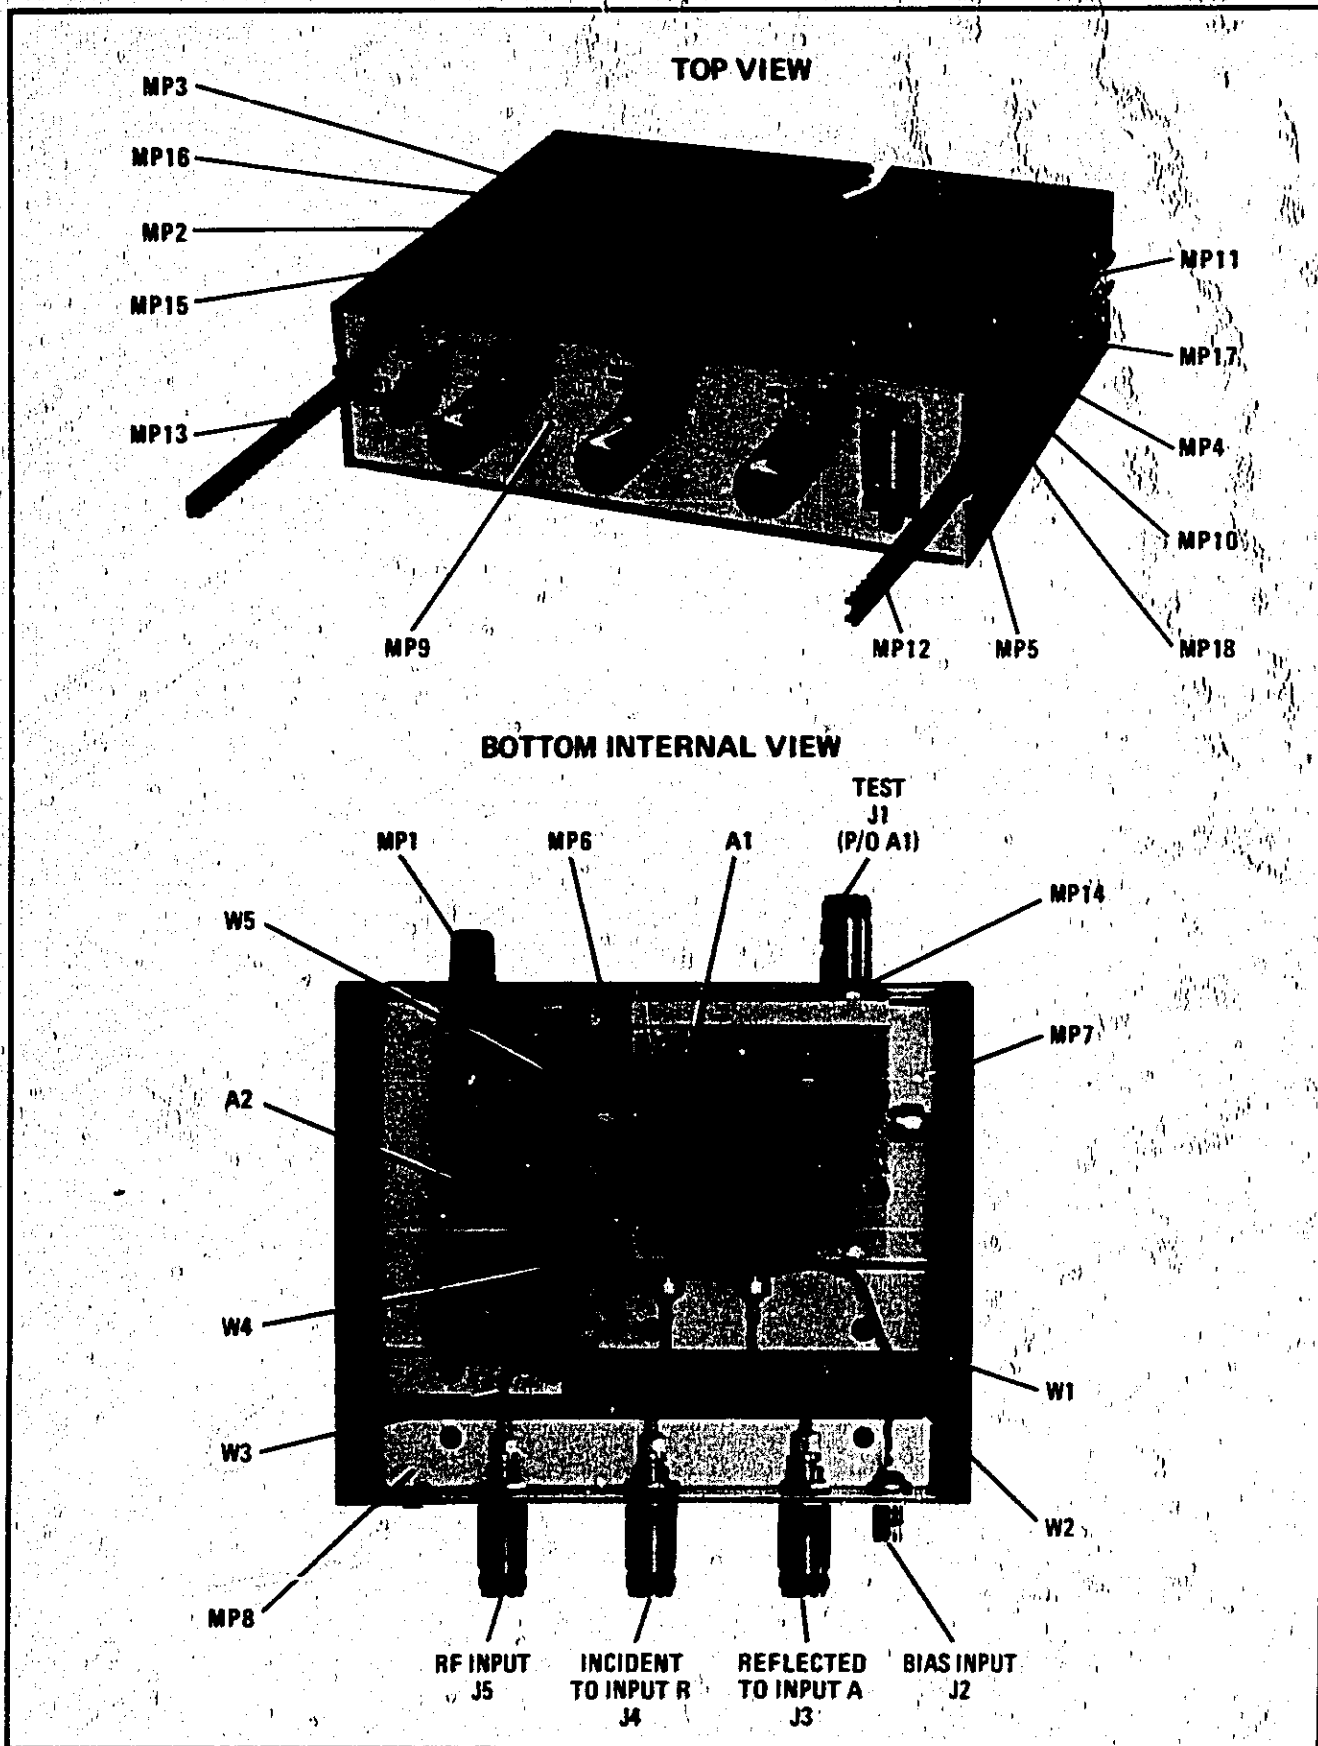
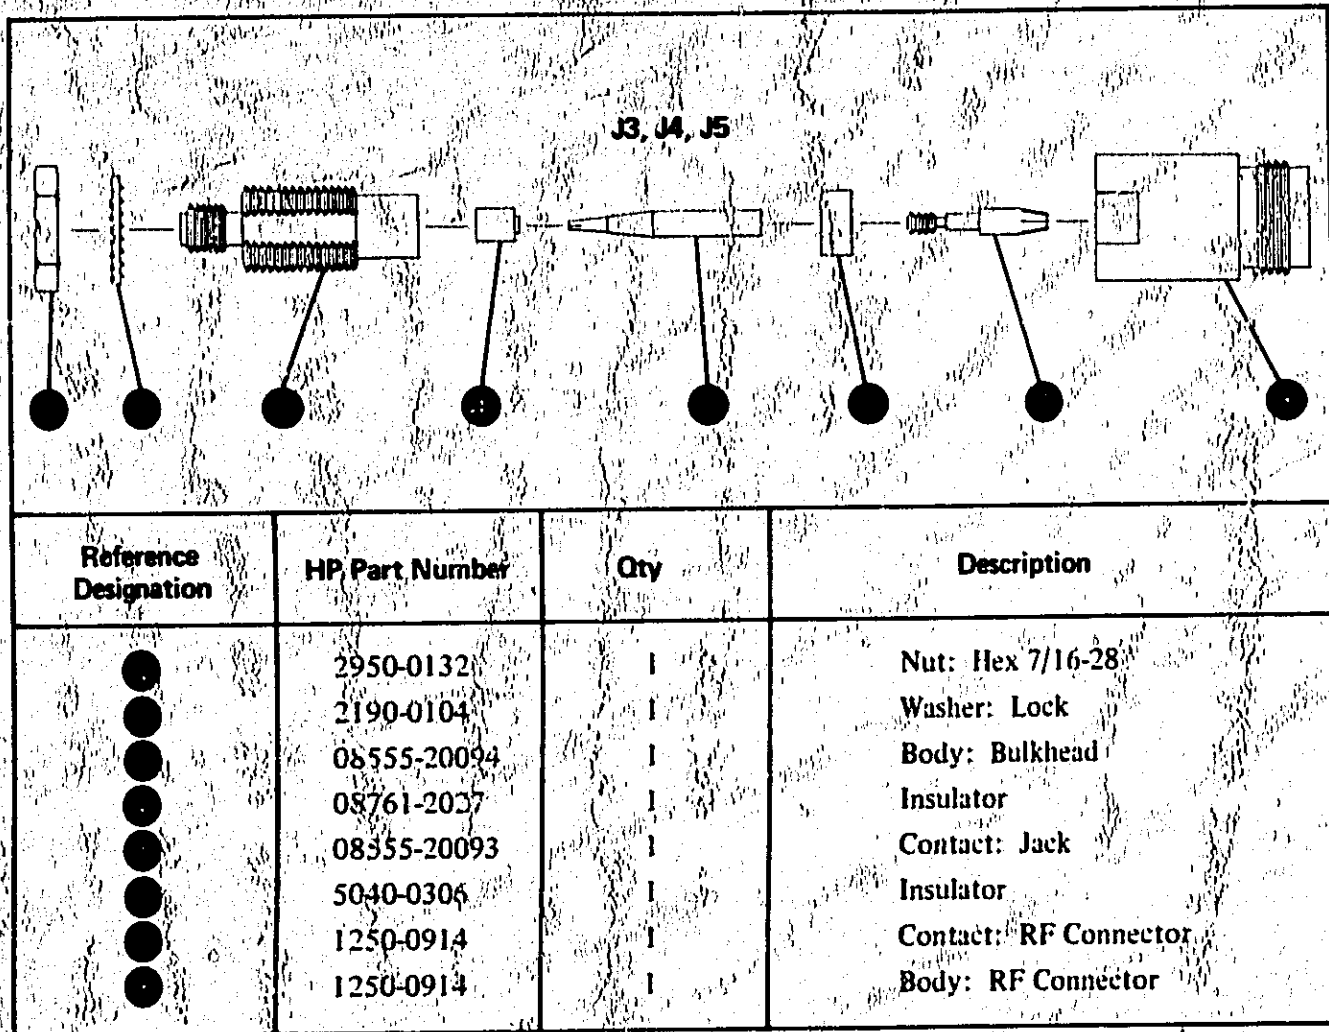

Figure 21. Major Assemblies and Parts Locations
Figure 22. Type N Connector Assembly (08502-60001), Exploded View
52. Replaceable parts are listed in Table 7 and identified in Figure 21. Parts of Type N Connector Assembly (J3, J4, and J5) are shown in Figure 22. 8502A attaching hardware (screws, washers, etc.) is listed and identified in Figure 23.
- d. Remove cables W1, W2, and W3 from Directional Bridge A1. (See Figure 21.) Use 5/16 open-end wrench to loosen cable connectors.
- h. Remove cables W4 and W5 from Directional Bridge A1 and Step Attenuator A2. (See Figure 21.)
- i. Connect cables W1, W2, and W3 to Directional Bridge A1. (See Figure 21).